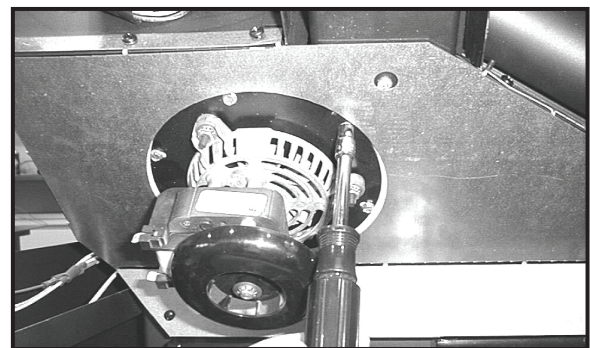

Figure 21.4
- There is a removable plate on the exhaust blower. Using a 1/4" socket or short standard screwdriver loosen the 6 screws in the keyhole shaped holes and rotate the plate. **Figure 21.4.**